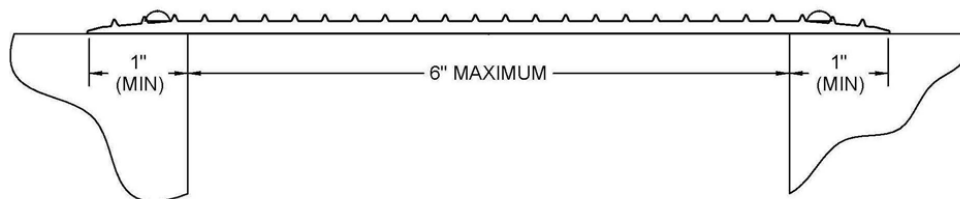

FIG. 7.4
- ⚠️ Ensure that at least 1" on each of the supporting edges of the plate is supported on a good, sound construction surface that is free from defects (FIG 7.4).